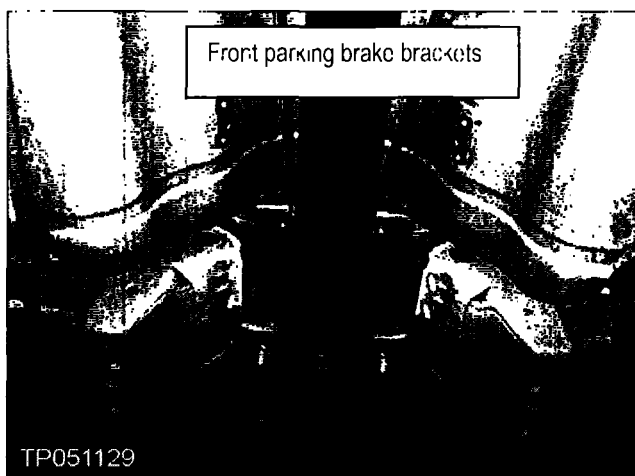

Figure 15a
15. Remove the front and rear parking brake brackets (see Figure 15a and 15b).